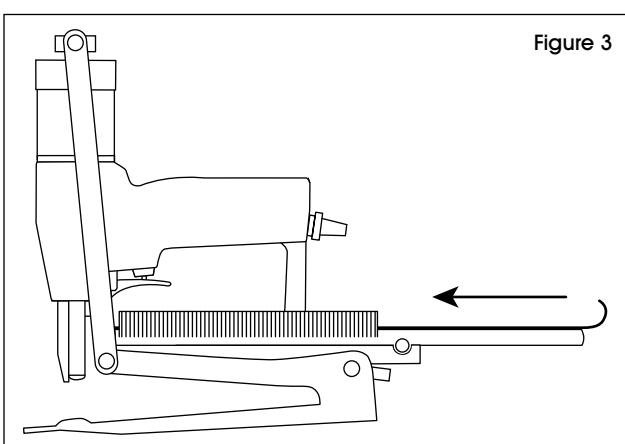

Figure 3
3. Push the lid forward until it clicks into place. (See Figure 3)